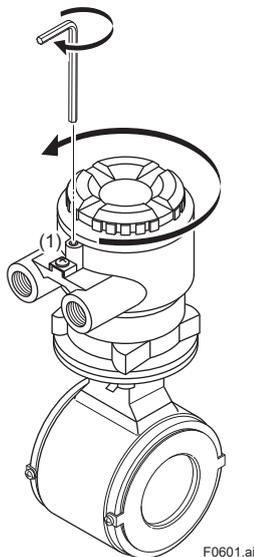

Figure 6.1 Removing the Cover (Remote Sensor)
(1) Removing the Cover
Loosen the cover locking screw (1) (See Figure 6.1) clockwise using a hexagonal wrench (nominal size 3) to unlock the cover. Upon shipment from the manufacturing plant, the cover is unlocked. Support the main unit and turn the cover to the left (counterclockwise) to remove it.
(2) Installing the Cover
Install the cover to the terminal box by turning it clockwise. Tighten the cover locking screw (1) (See Figure 6.1) counterclockwise using a hexagonal wrench (nominal size 3) to lock the cover.